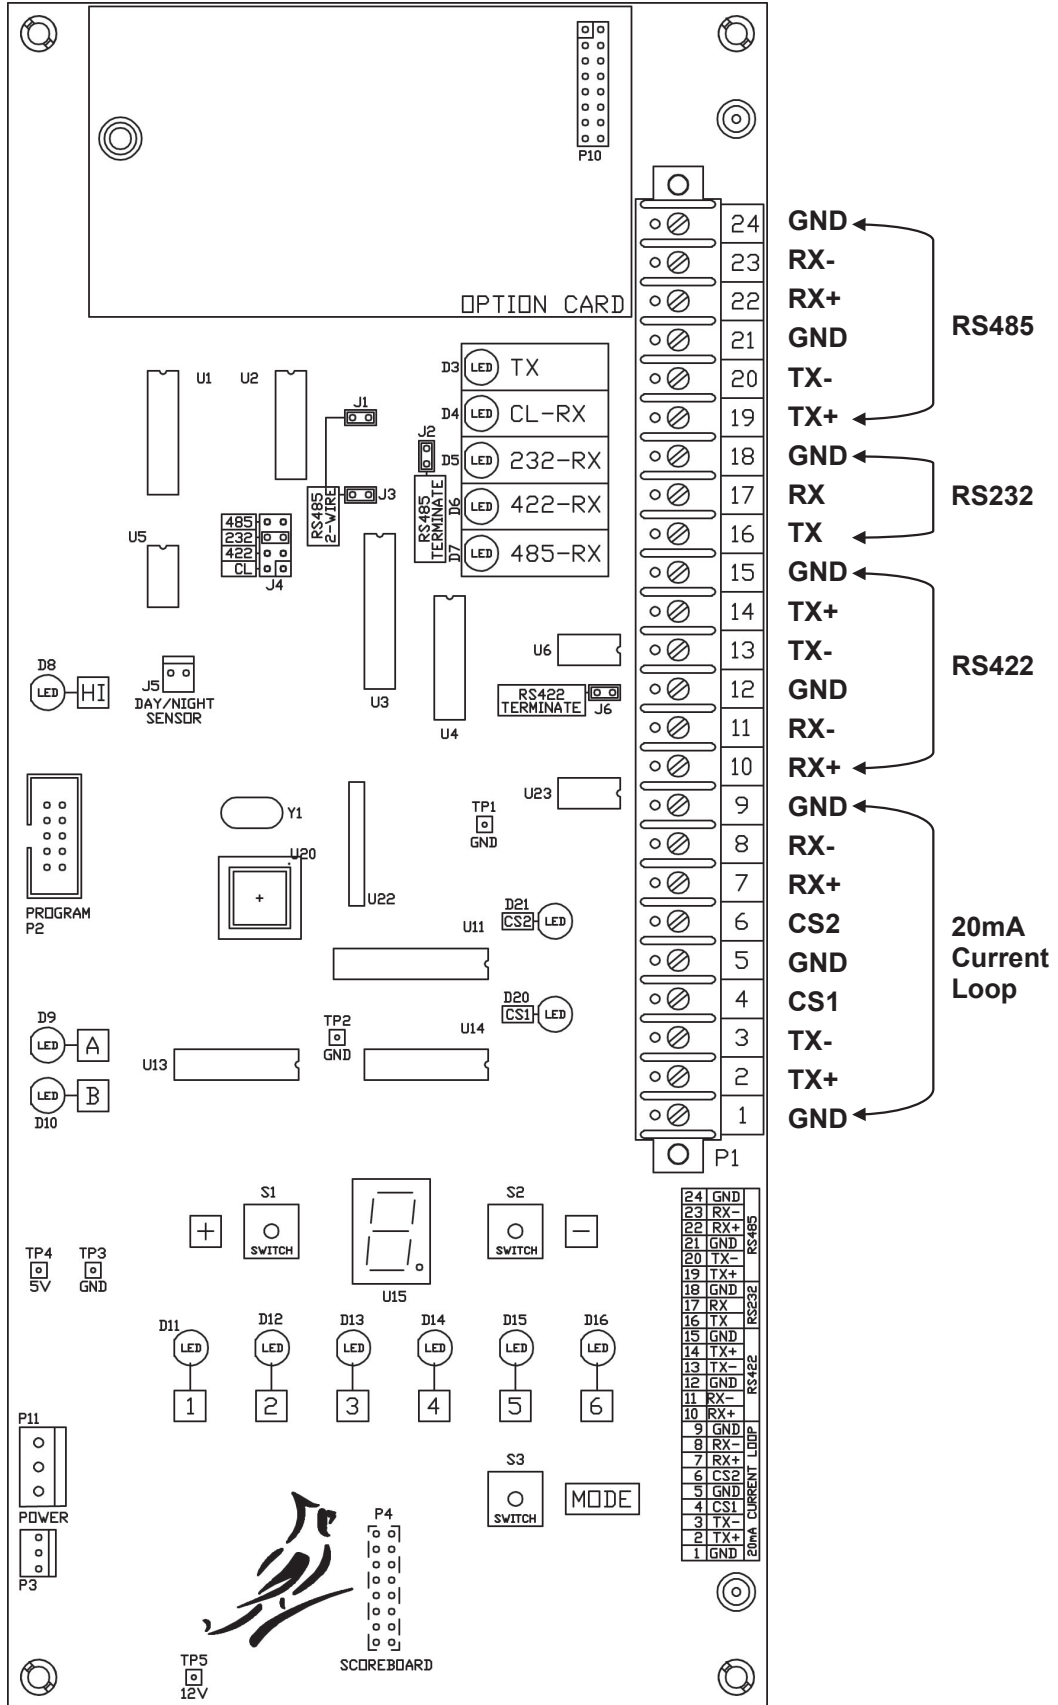

Figure No. 5
P1 = 24 terminal connector for serial cable connections. Refer to Figure No. 5.
4. Referring to Figure No. 5 for the location of the terminal block and for correct terminal connections, connect each of the wires to terminal block.
4. Referring to Figure No. 5 for the location of the terminal block and for correct terminal connections, connect each of the wires to the terminal block.
4. Referring to Figure No. 5 for location of the terminal block and for correct terminal connections, connect each of the wires to the terminal block.